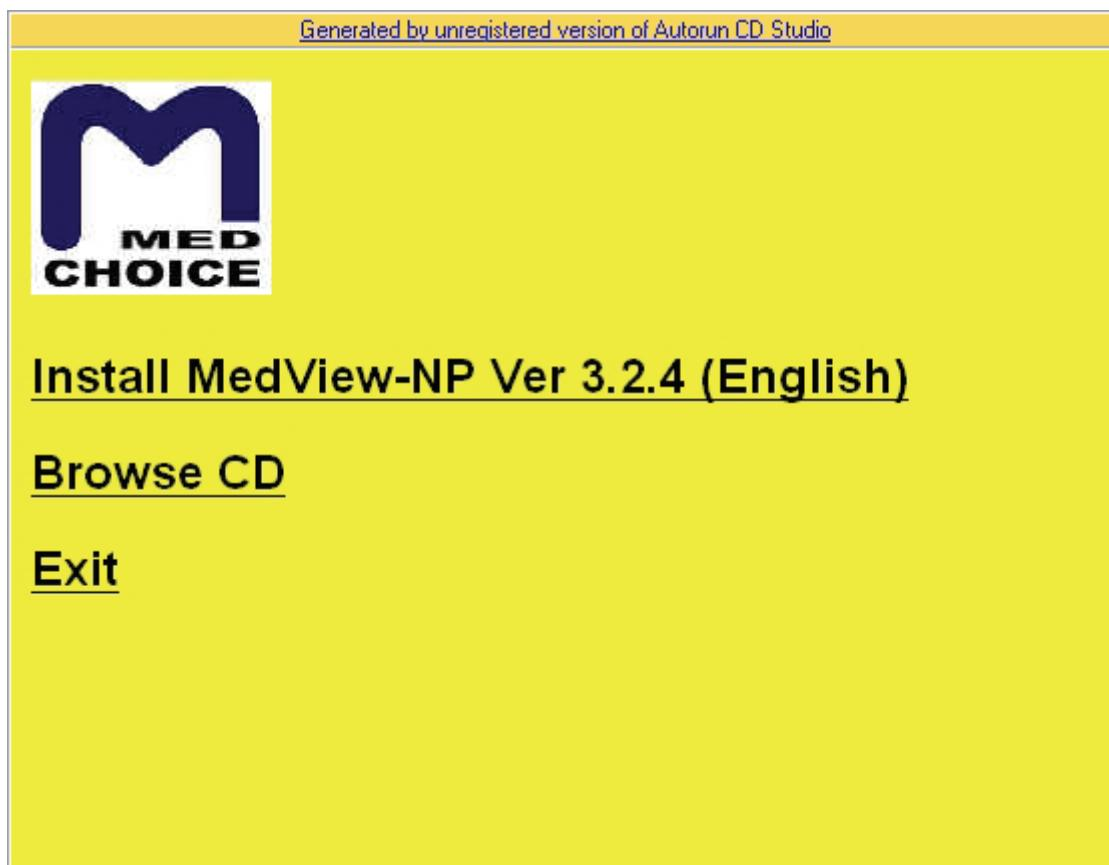

Figure 2-1
2.1 Put the attached installation CD into computer's CD driver, the CD will run automatically and then the following interface will appear, as shown in Figure 2-1.
(1) Click “Install MedView-NP Ver 3.2.5(English)” in Figure.2-1 to begin the installshield wizard of MedView-NP Software. Then Figure 2-2 will appear.